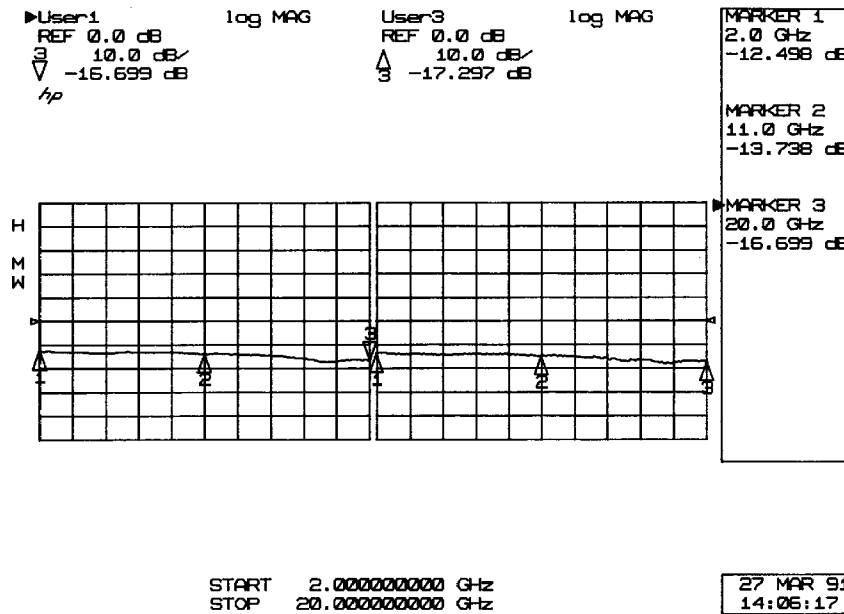

Figure 6-3. a1 and a2 Signal Paths
2. Press INSTRUMENT STATE **RECALL** **2**. This brings up a display similar to Figure 6-3.